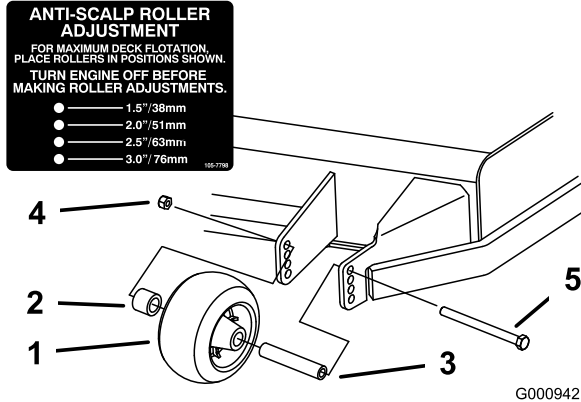
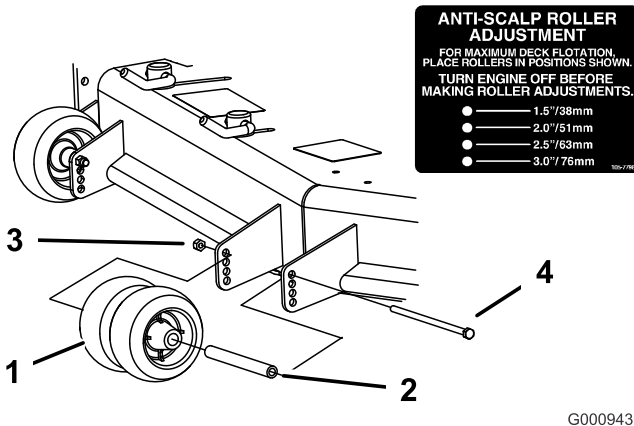
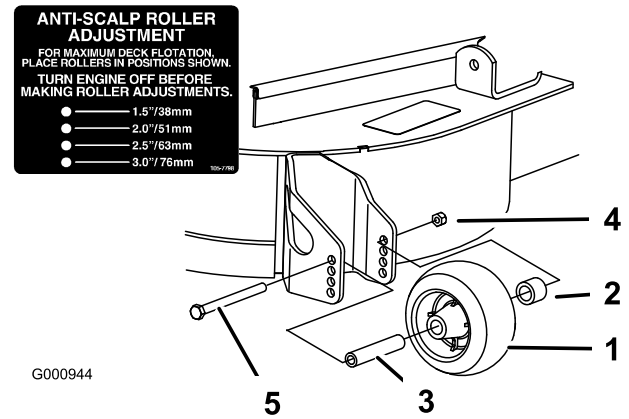

Figure 20
Figure 21
Figure 22
3. After adjusting the height-of-cut, adjust the rollers by removing the flange nut, bushing, spacer, and bolt (Figure 20, Figure 21 and Figure 22).
Note: The two middle rollers will not have a spacer (Figure 21).
5. Install the flange nut bushing, spacer, and bolt. Torque to 40-45 ft-lb (54-61 N-m) (Figure 20 , Figure 21 and Figure 22).